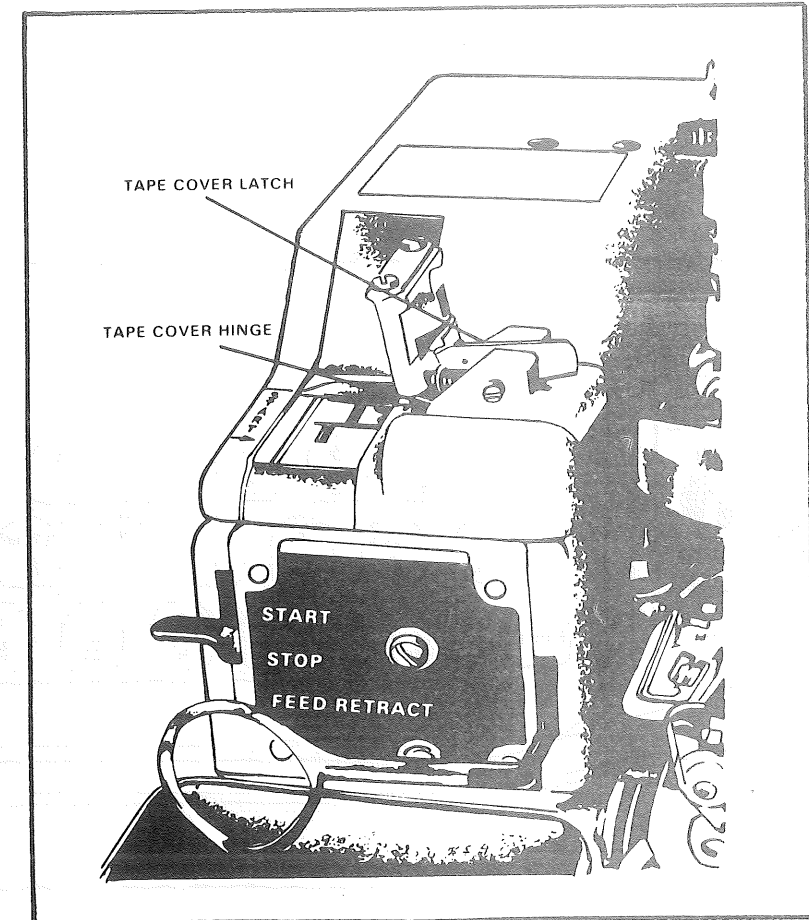

Figure 3. Transmitter-Distributor, tape cover.
- f. Tear off reperforated tape of R's and Y's and position it on the transmitter-distributor (fig 3).